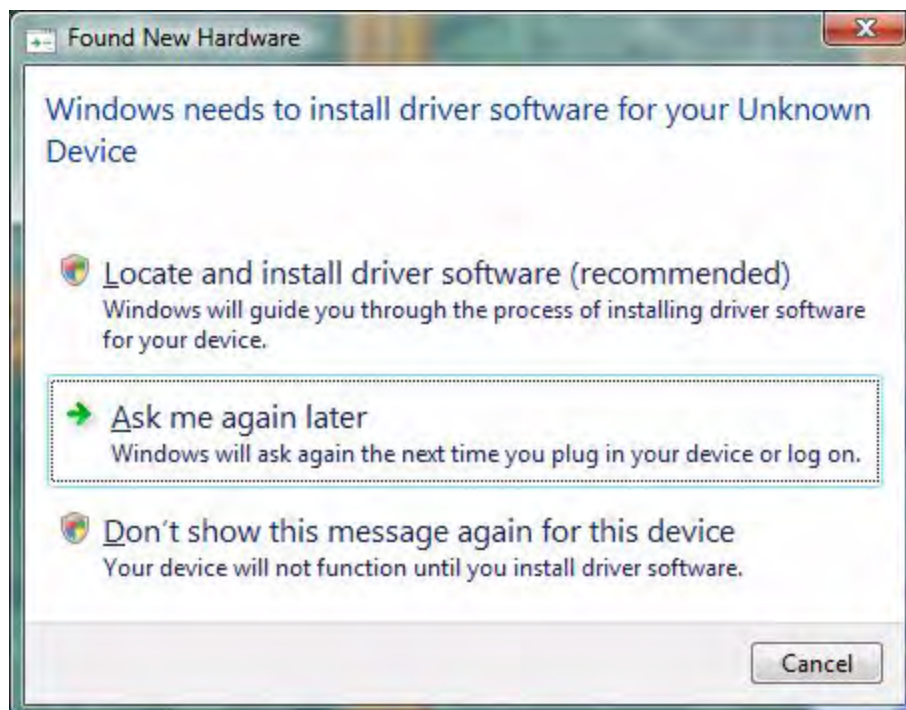

Figure 92. Found New Hardware Dialog, Windows Vista
2. After the PC detects the new hardware, it will display the Found New Hardware Wizard dialog box, shown in Figure 92. Click **Locate and install driver software (recommended)**.